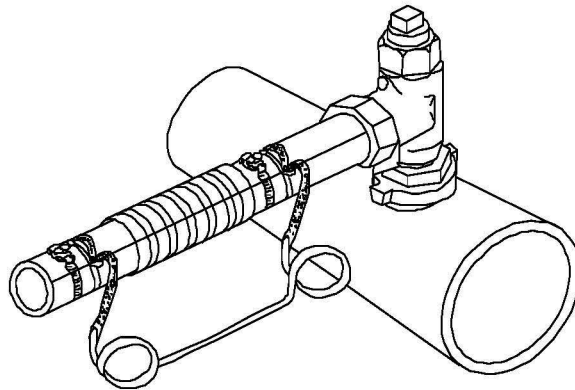

Figure A35 - Typical installation of Temporary Continuity Bond.
1. A Temporary Continuity Bond (TCB) is used to protect the Operative and ensure that an ignition source will not be created by an electrical discharge across a temporary gap in pipe work. (Figure A35 illustrates a typical temporary continuity bond used for cutting off services).